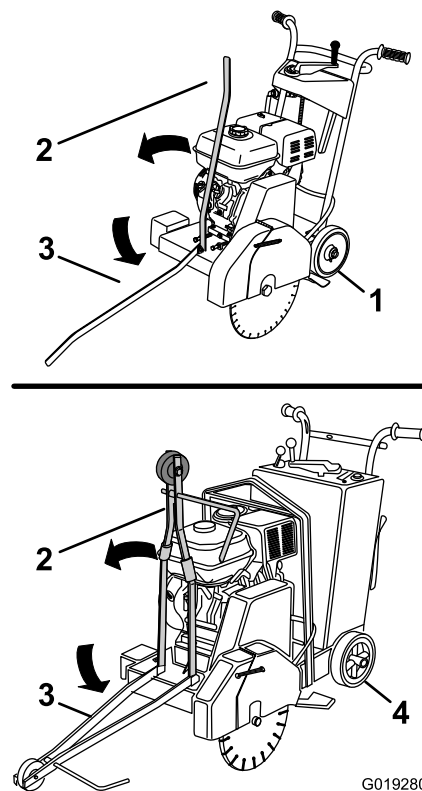

Figure 29
- If the forward pointer is stowed in the up position, rotate the extended position (Figure 29).